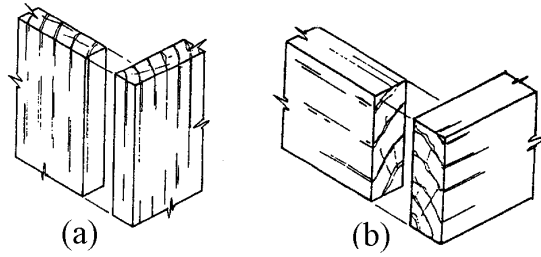

Fig. 10
38. Illustrate a method of jointing each of the timber sections shown in figure 10 (a) and (b) other than using butt joints, and name the joint used in each case.